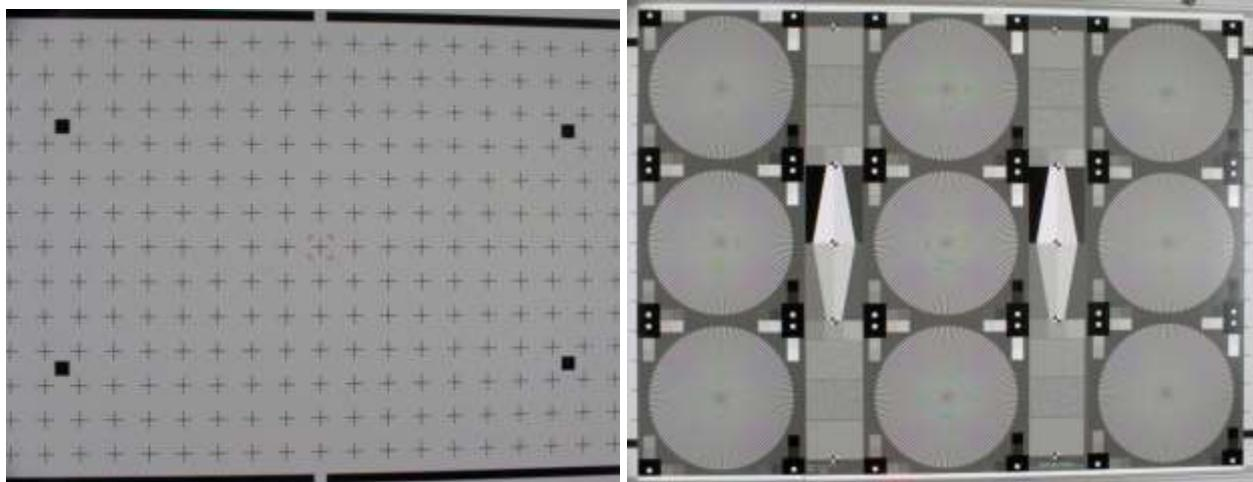

Figure 27. Examples of Images with Camera Rotation to the Right
29. If the right side of the image appears to shrink inwardly at both the top and bottom of the image (Figure 27), adjusting the Tripod Horizontal Rotation (center knob) so the front of the camera moves to the left as viewed from behind the camera will “square-up” the image.